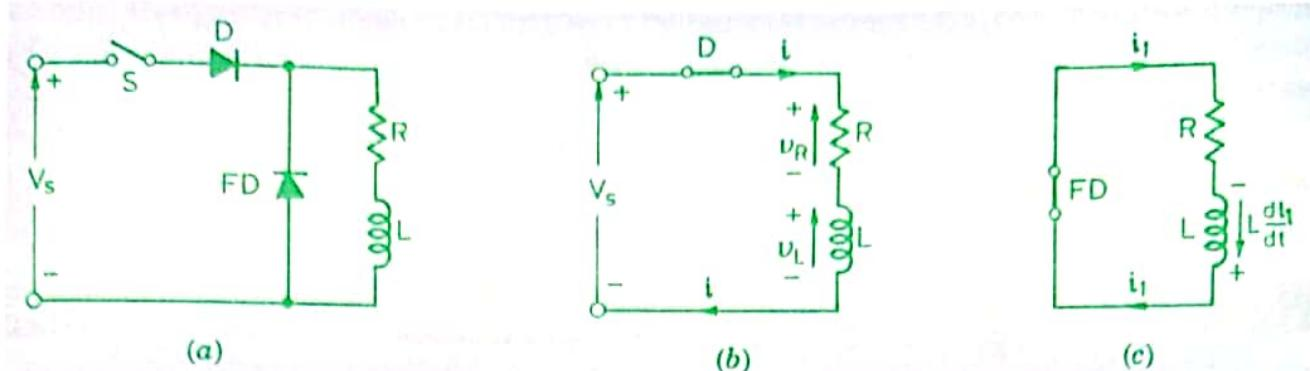

Fig. 3.11. Circuit of Fig. 3.3 with freewheeling diode.
**Mode II :** When switch  $S$  is opened at  $t = 0$ , current in the circuit tends to decay and so a voltage  $L \frac{di}{dt}$  is induced in  $L$  which forward biases freewheeling diode. The current is, therefore, transferred to the circuit consisting of  $FD$ ,  $R$  and  $L$  as shown in Fig. 3.11 (c). In this circuit, current is given by